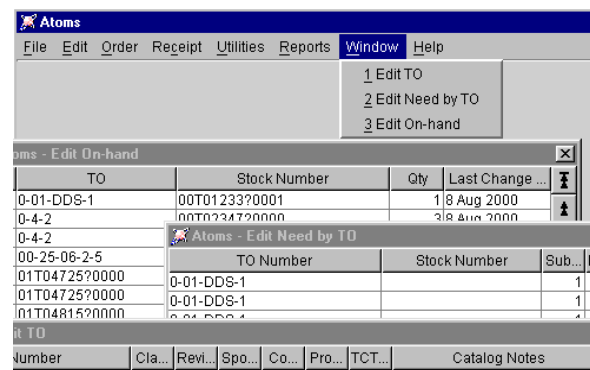

Figure 4-37. Window Command List
- 1) From the splash screen, select **Window**. In the list below the command, each open window (up to nine) appears with a number beside it (Figure 4-37). For window # 10 and higher, just the
- 2) From the splash screen, select **Window**. Each open window appears below the **Window** command with a number beside it (Figure 4-37).